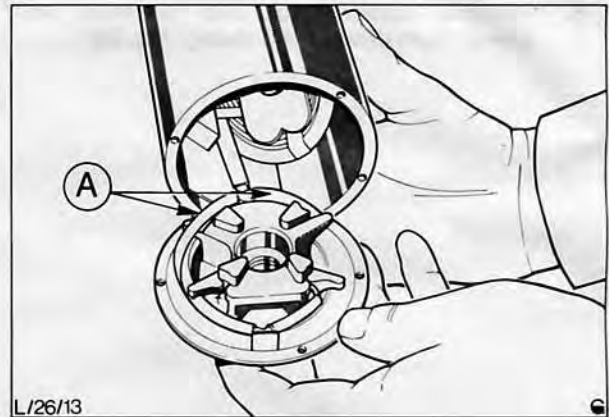

Fig. 41. A – Field winding brushes
9. Remove four commutator end plate securing screws and carefully tap plate free of yoke. Lift commutator plate clear of yoke sufficiently to allow access to two field winding brushes, Fig. 41, disconnect two brushes from brush box to allow complete removal of commutator end plate.